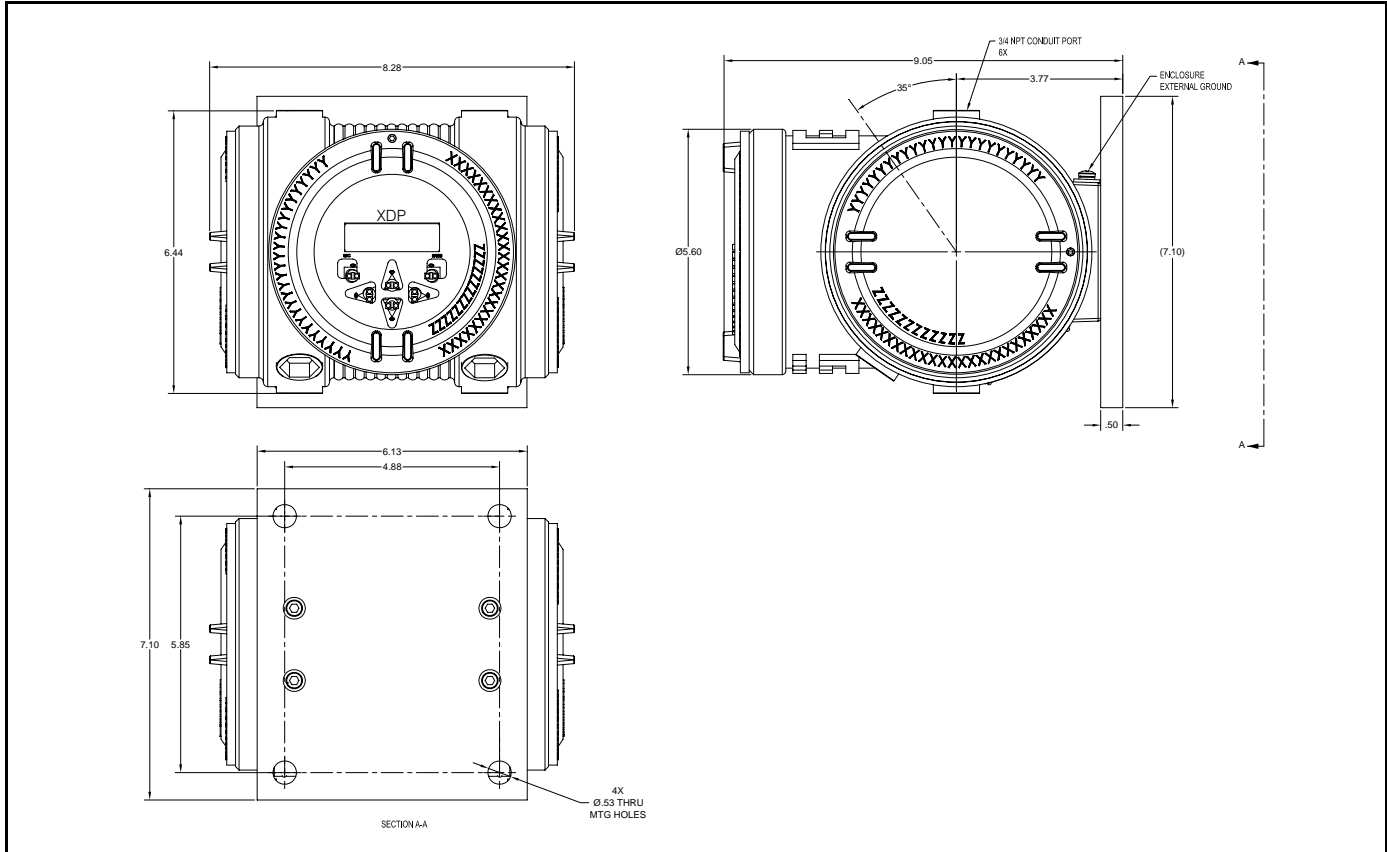

Figure 2-2: XDP Mounting Dimensions (Drawing #712-1095B)
- c. Connect the *ground* power lead (green or green/yellow) to the chassis ground screw shown in Figure 2-2 on page 2-10.